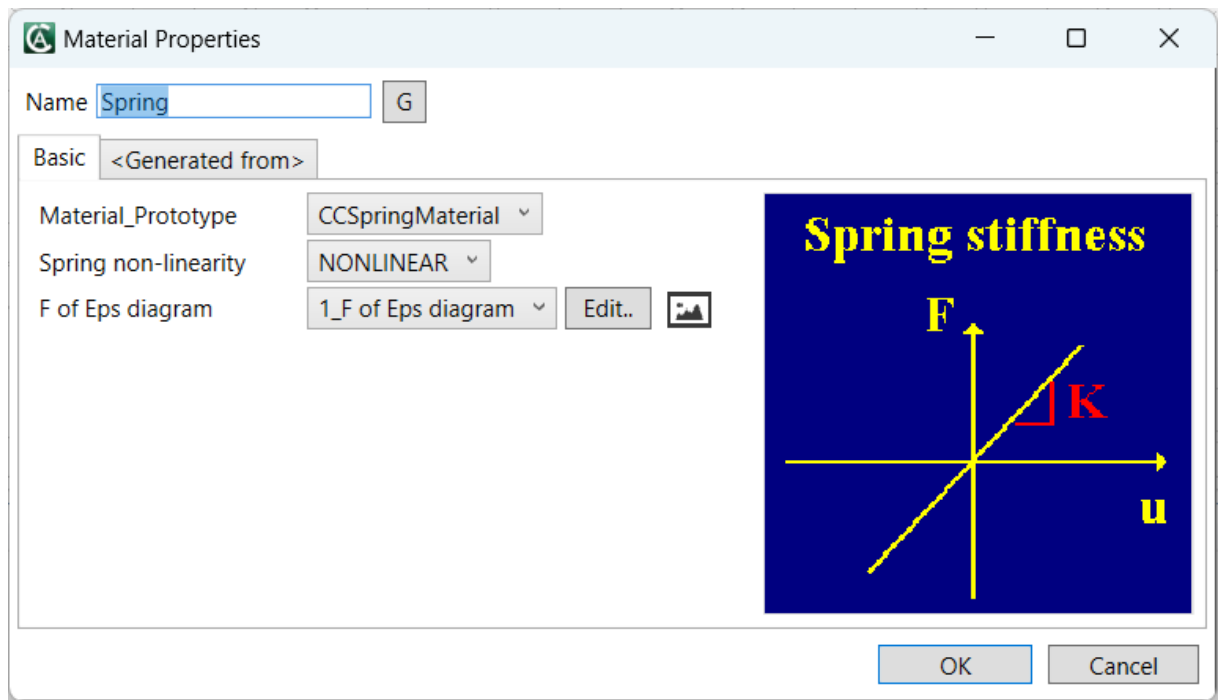

Fig. 4-13 Spring – Basic material properties.
**Spring** material can be used for point, surface and line springs. Spring can be linear and also nonlinear. The linear spring are dfined with stiffness while nonlinear ones are defines by force-deformation diagram, Fig. 4-13.